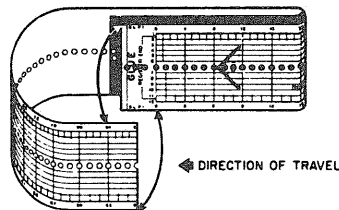

Figure 4-8 Tape Alignment\*
- 9 After punching, remove the tape and apply glue to the area indicated at the top of the format tape. Loop the tape and align the bottom edge line with the 0 line, as shown in Figure 4-8.